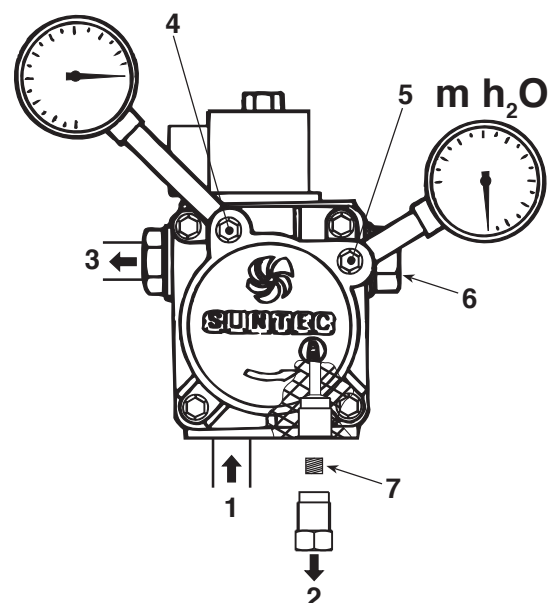

fig 4
The burner leaves the factory with the internal pump bypass closed, that is, the burner is fitted for two-pipe connection. Remove the caps and connect the two flexible pipes to the pump inlet (1) and return (2), as shown in Figure 4, making sure the flexible pipes are not twisted and that they are positioned so that they will not be stepped on or come into contact with the hot parts of the boiler.
The pressure of the pump is factory-set to 12 bars, for optimum operation, and normally should not be modified. Nonetheless, if under specific circumstances a different pressure needs to be set, once having attached the pressure gauge and ignited the burner, use the adjustment screws "6" indicated in fig. 4. In any case, it is recommended to keep within the range 10 - 14 bars.